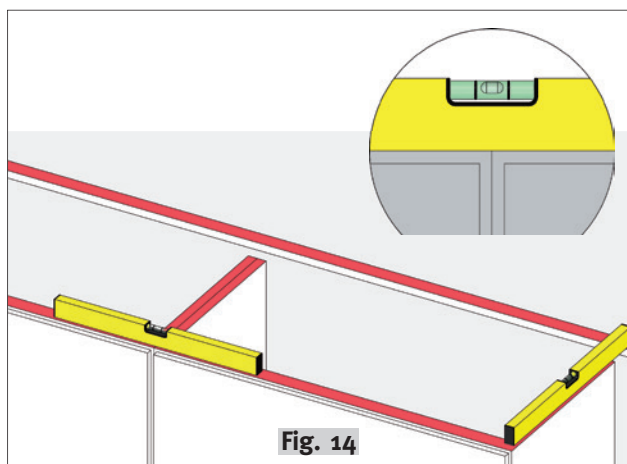

Fig. 14
- 4a. The cabinets should be placed perfectly levelled (**fig. 14 and 15**).